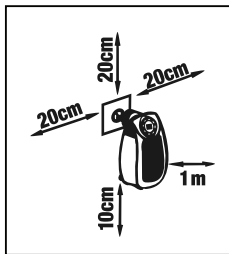

Fig. 2
- The minimum distances between the appliance and other objects of 20 cm to the side, 20 cm to the top, 10 cm to the bottom and 1 m to the front must be observed (see fig. 2).